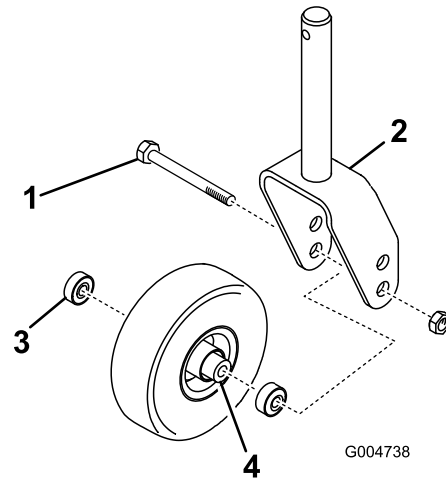

Figure 25
2. Remove the bearing from the wheel hub and allow the bearing spacer to fall out (Figure 25). Remove the bearing from the opposite side of the wheel hub.
1. Remove the locknut from the bolt holding the castor wheel assembly between the castor fork (Figure 25). Grasp the castor wheel and slide the bolt out of the fork or pivot arm.